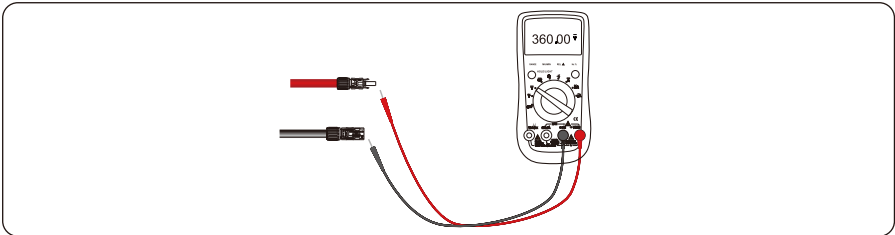

Figure 5.14 Checking the voltage of every route Strings
Step 5 Measure the voltage of every route strings using a multimeter. Ensure that the polarities of the DC input power cables are correct, as shown in Figure 5.14.